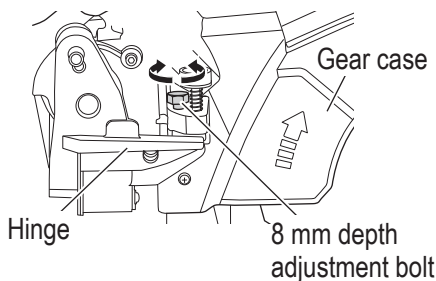

Fig. 10
To adjust the lower limit position of the saw blade, follow the procedure (1) indicated below. (Fig. 10)
- (1) Turn the 8 mm depth adjustment bolt, change the height where the bolt head and the hinge contacts, and adjust the lower limit position of the saw blade.